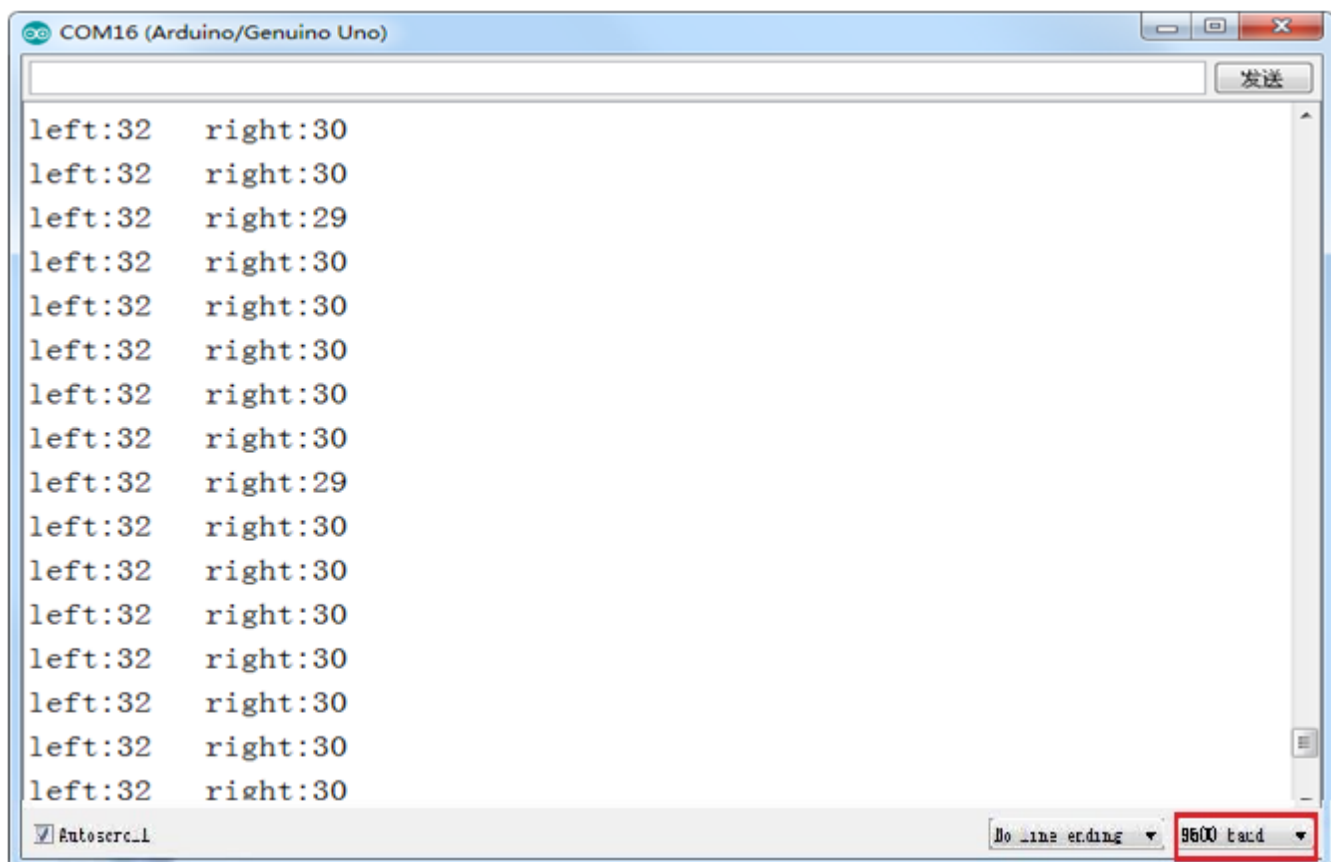

Figure .3.2.14 Diagram of Data with Obstacles
3. Module test. Copying the following code to the IDE compiler environment (you can also open the program directly in the CD), downloading it to the development board, opening the serial port monitor (baud rate is 9600) and observing the changes of data when there is an obstacle (Figure 3.2.14) and no obstacle (Figure 3.2.15).